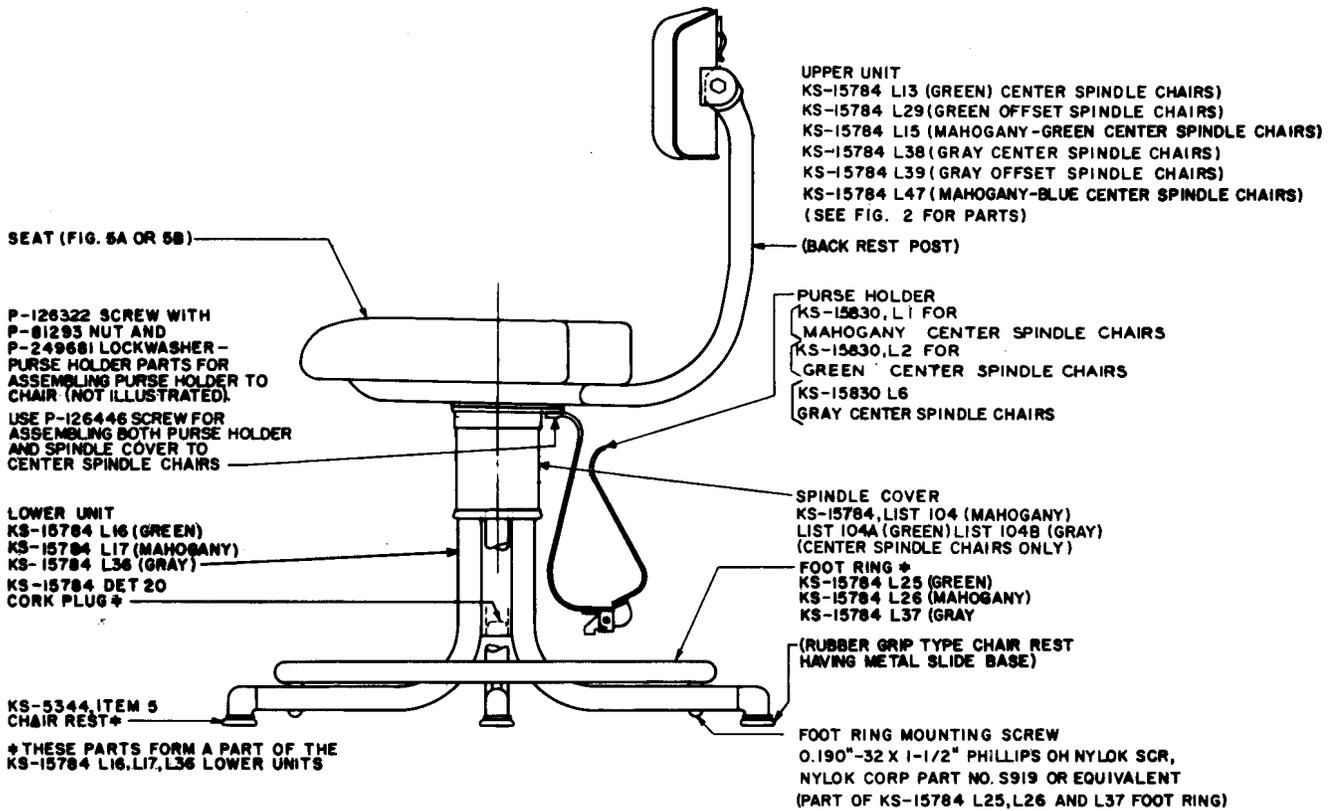

Fig. 1—Replacement Part Information for KS-15784 Type 18-Inch Operator Chairs
- Revise Fig. 1, 2, 3, and 5B to show changes in backrest and construction changes to seat